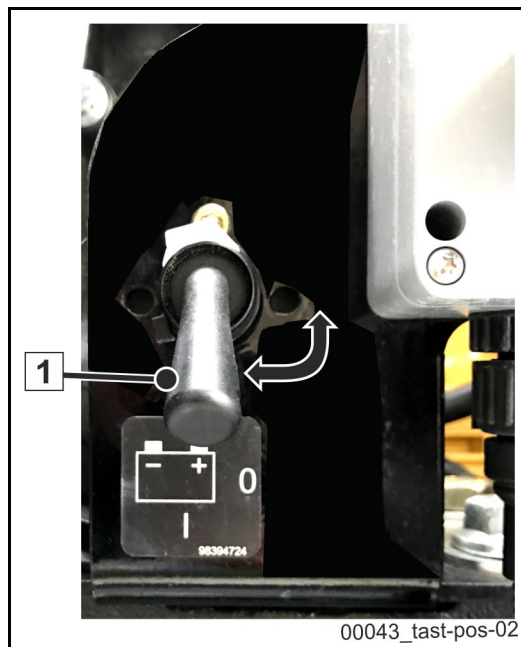

Fig. 23 Detailed view of main switch for starter batteries
When working on the electrical system, performing maintenance and conducting repairs, your machine's power supply must always be switched off via the main switch (1) (**Fig. 23**) for the starter batteries. To do this, turn the main switch for the starter battery (1) to the right to the "0" position.